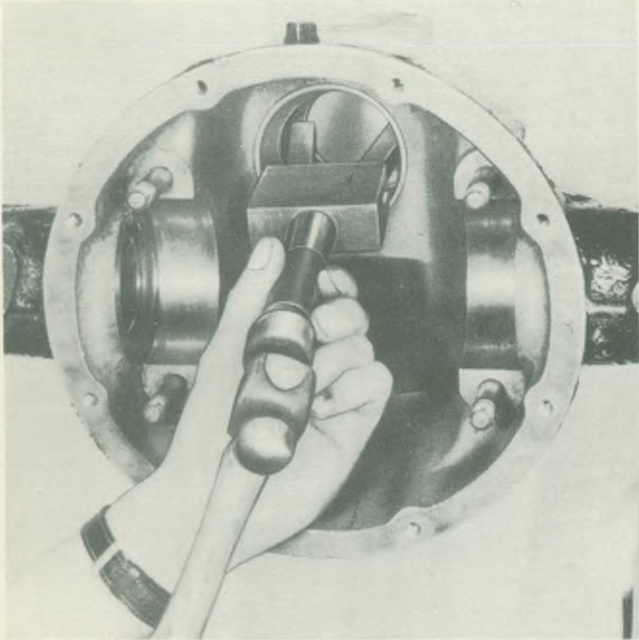

Fig. 18. Driving out pinion bearing outer ring
12. Drive out pinion tail bearing with oil seal, employing special tool as shown in Fig. 18. (The illustration shows the oil seal already removed the better to show the operation of this tool.)